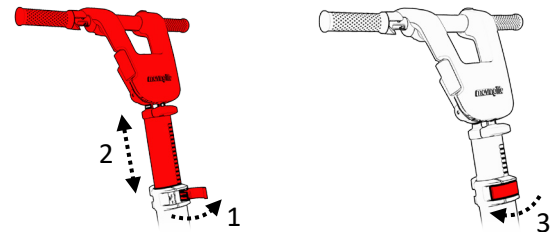

Figure 18 Driving Console height lever
Open the rod lever and hold it (1) while adjusting the height of the handle bar at your convenience (2). Bring the lever back to the secure position once you're done (3). (see Figure 18).